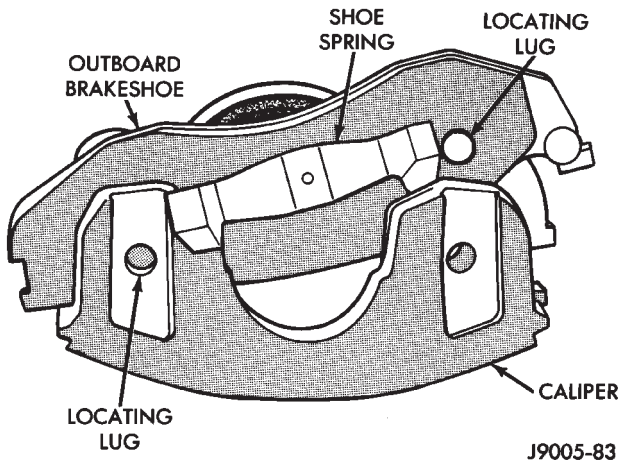

Fig. 12 Installing Outboard Brakeshoe
(5) Install outboard shoe in caliper (Fig. 12). Start one end of shoe in caliper. Rotate shoe downward and into place until shoe locating lugs and shoe spring are seated.